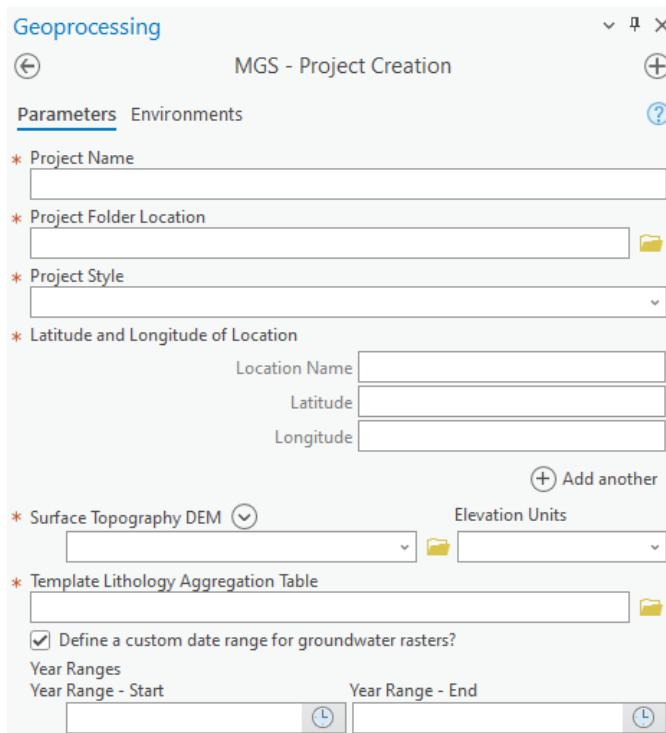

Figure 1: Screenshot of the MGS - Project Creation custom Python script in the ArcGIS Pro software.
Once the scope of the project has been determined, the users will load the MGS_Tools toolbox into a new map document and run the MGS – Project Creation tool that is found in the Data Formatting Tools toolset. This process for this custom Python script is described below in **Figure 1**:
6. Open the Data Formatting Tools inside the MGS toolbox and select the “MGS – Data Formatting” tool. See in **Figure 1**.